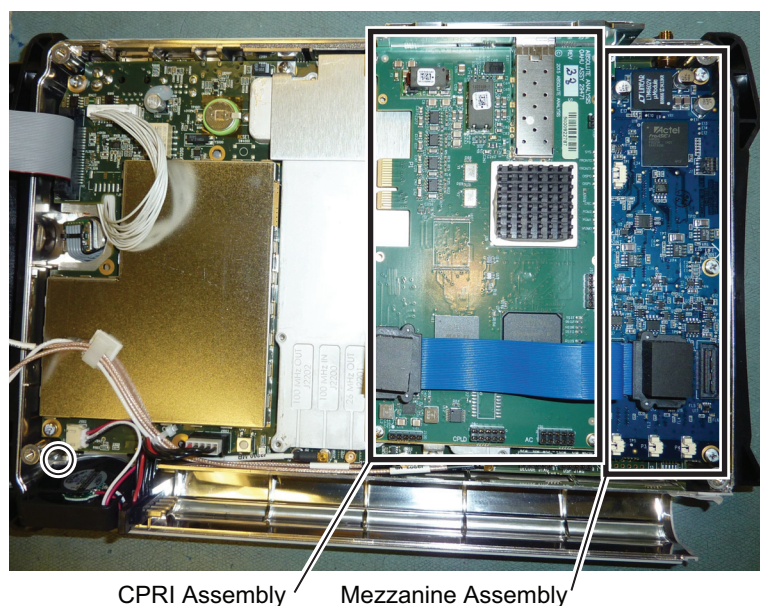
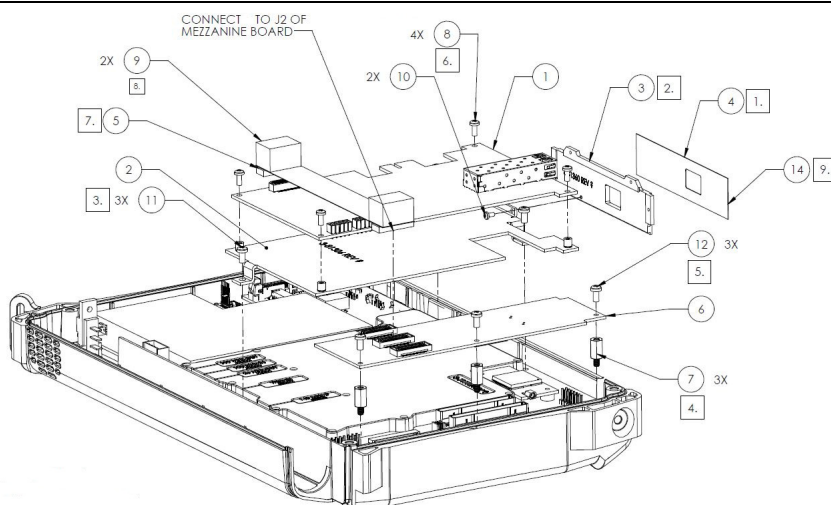

Figure 8-16. CPRI and Mezzanine Assemblies
Figure 8-17. CPRI Assembly (1) and Mezzanine Assemblies (6)
2. See Figure 8-16 and Figure 8-17 for the following key items:
- CPRI Assembly (1)
- Mezzanine Assembly (6)
- High speed cable (5) that is connected from the CPRI Assembly (1) to the middle connector of the Mezzanine Assembly (6).